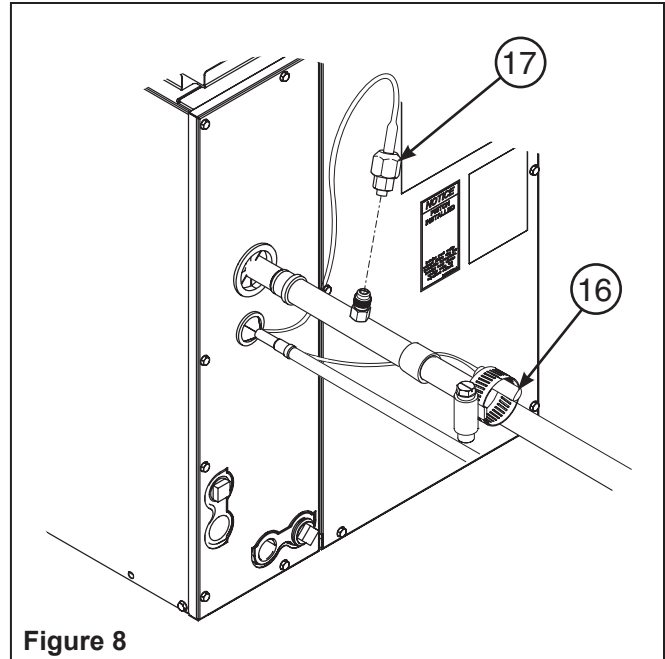

Figure 8
- Position the bulb on a smooth straight section of the vapor line downstream of the equalizer fitting as illustrated in Figure 8. If the bulb must be mounted vertically, ensure that the bulb tube is pointed upward.
16. Attach the bulb to the vapor line using the supplied hose clamp (Figure 8). The clamp should be “snug” but not “tight” – spec is to torque the hose clamp to  $20 \pm 5$  in-lb. Make sure that the entire length of the bulb is in firm contact with a straight smooth section of the vapor line. Wrap with supplied insulation.